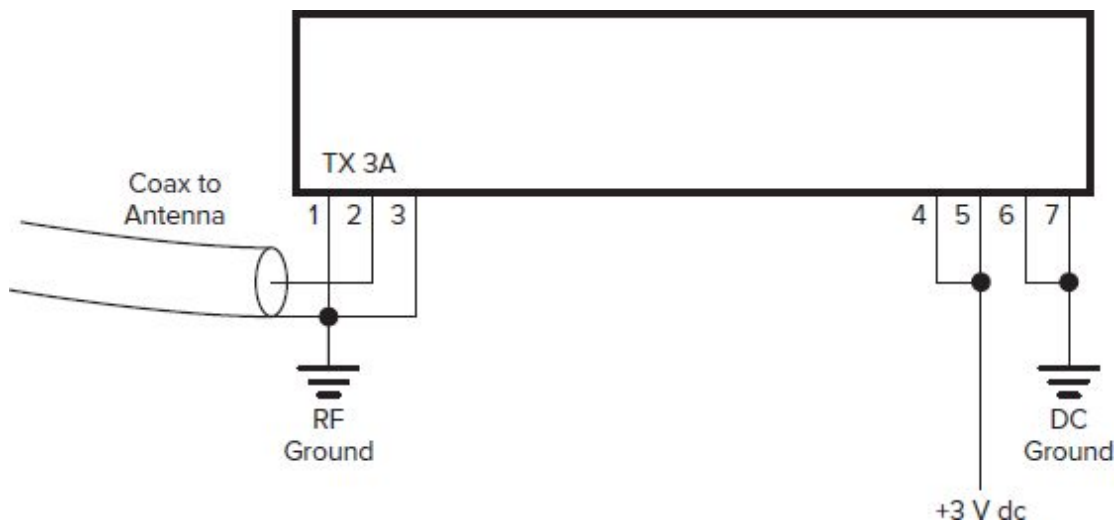

Fig. 16-4 Transmitter wiring.
1. Mount the TX3A transmitter on the breadboarding socket and wire it as shown in Fig. 16-4. With a 3-V dc supply, the TX output is about 1 mW. Pin 4 is the enable pin. Connect it to +3 V to enable the transmitter. Ground pin 7, the data input, to transmit a continuous binary 0 frequency.